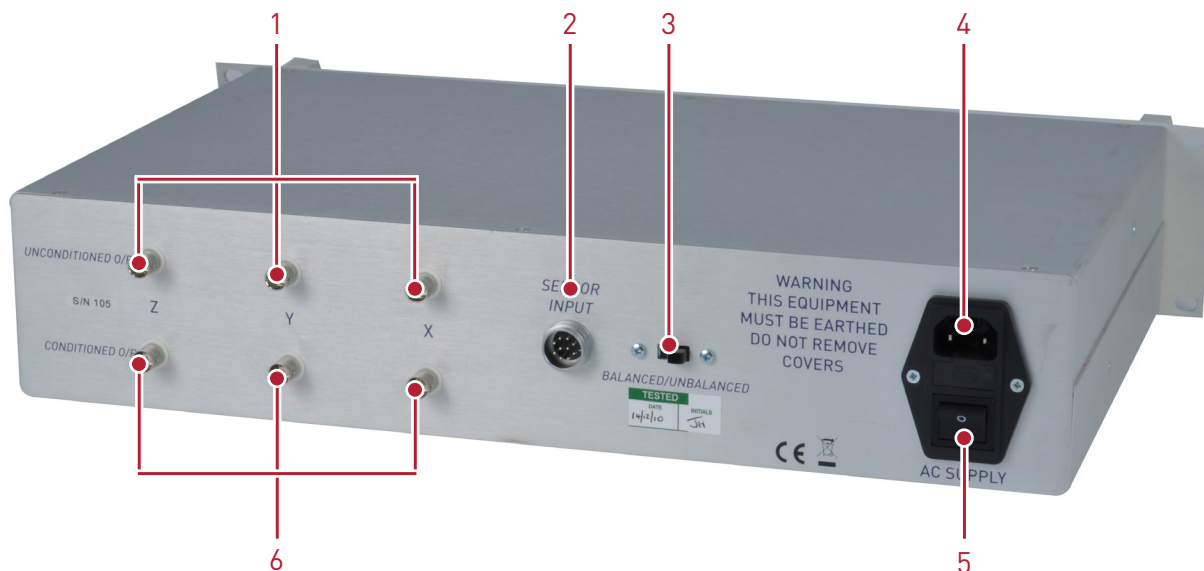

Figure 1. Back panel connections and controls.
Key to Figure 1
3. Ensure the IEC socket mains switch (Figure 1, item 5) is OFF (position 0). Connect your mains supply cable to the IEC socket. The unit will operate with a mains supply in the range specified in the product brochure. Range selection is automatic within the unit.
Before switching on the equipment, set the magnetometer output type selector switch (Figure 1, item 3) to the correct position for your magnetometer: see Table 2. See individual sensor data sheets for those not mentioned in this table.
Caution: The SCU1 should be switched on and off using the IEC socket switch (Figure 1, item 4) ("0" = OFF, "1" = ON).